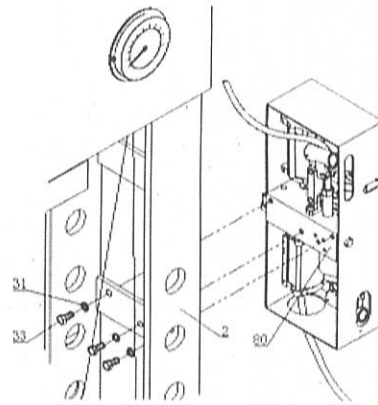

Fig. 3
11.2.1 Fix the pump assy. (80) to the body frame by using hex bolt M12X25(33) and spring washer  $\phi$  12 (31). (refer to fig.3)